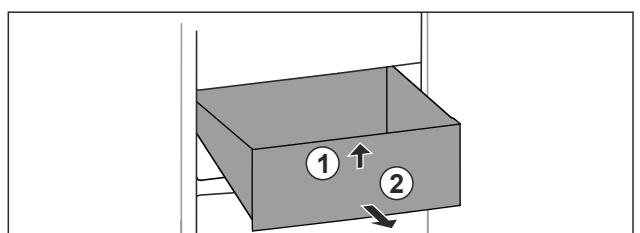

Fig. 100
- ▶ Lift up drawer at the front. *Fig. 100 (1)*.
- ▶ Remove drawer to the front. *Fig. 100 (2)*.